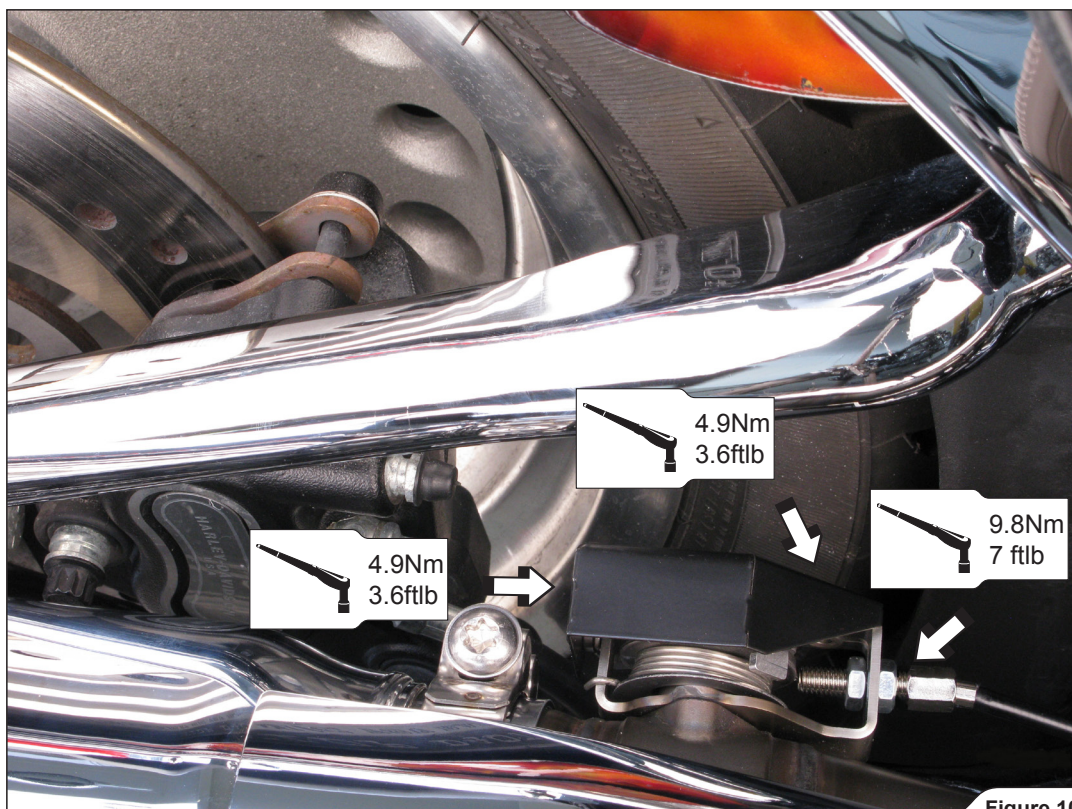

Figure 10
10. Assemble valve covers back onto exhaust valves and tighten marked bolts with the specified torque (Figure 10).